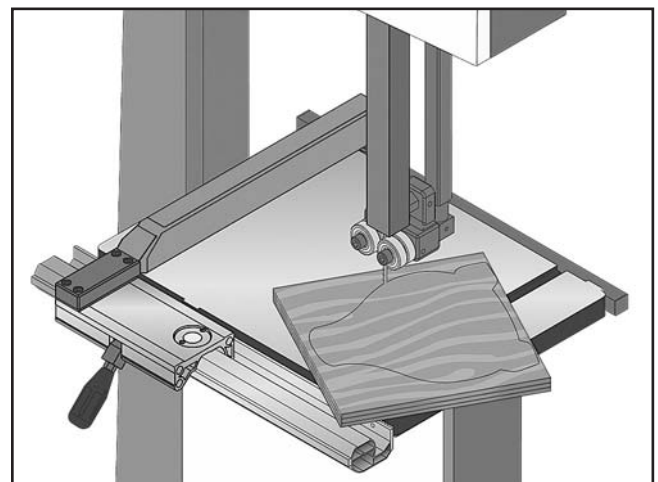

Figure 55. Example of a stacked cut setup.
5. Cut the stack of pieces as though you were cutting a single piece. Follow your layout line with the blade kerf on the waste side of your line (see **Figure 55** for an example of a stacked cut setup).